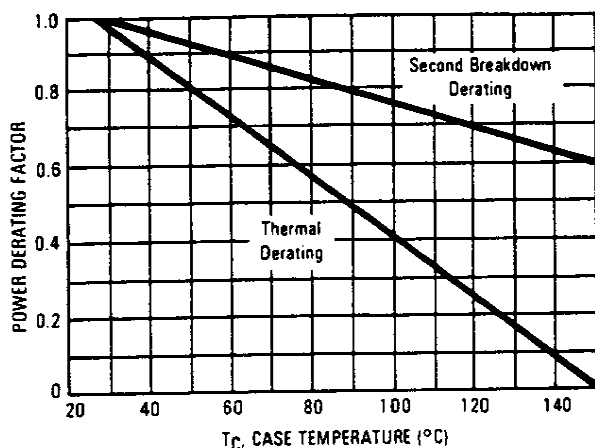

FIGURE 4 — Power Derating
If you prefer to use a curve, a derating factor may be obtained from Figure 4. This derating factor multiplied by the maximum power dissipation limit will yield the same result as the equation
2. Derate maximum allowable power at temperature, by applying the appropriate derating factor from the second breakdown derating curve in Figure 4.